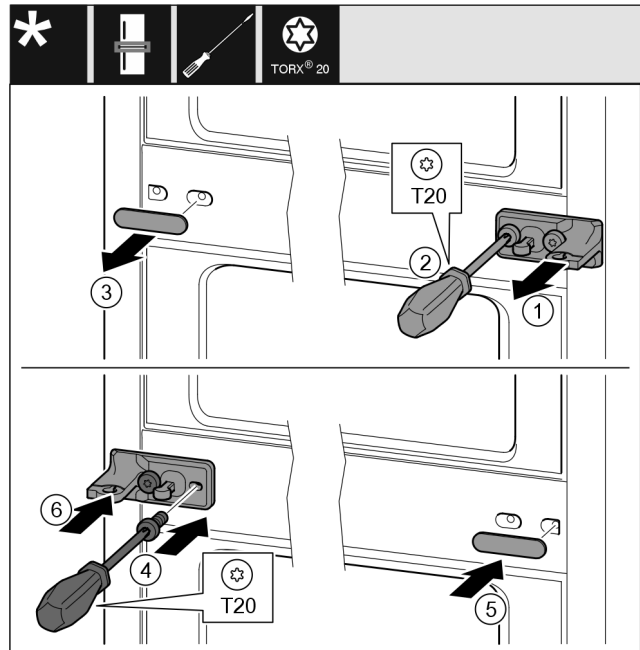

Fig. 29
- ▶ Remove the washer Fig. 29 (1).
- ▶ Unscrew screws Fig. 29 (2) with screwdriver.
- ▶ Remove the cover Fig. 29 (3) carefully.
- ▶ Turn the bearing block with film Fig. 29 (4) by 180° and screw it tight on the other side.
- ▶ Turn the cover Fig. 29 (5) by 180° and attach to the other side.
- ▶ Slide on the washer Fig. 29 (6) from the front.